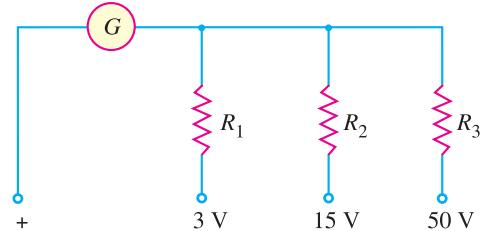

Fig. 22.29
2. The three range voltmeter is arranged as shown in Fig. 22.29. The ranges are 0 to 3 V, 0 to 15 V and 0 to 50 V as marked. If the full scale deflection current is 10 mA, what should be the values of R_1 , R_2 and R_3 ? The resistance of the meter is 5Ω .